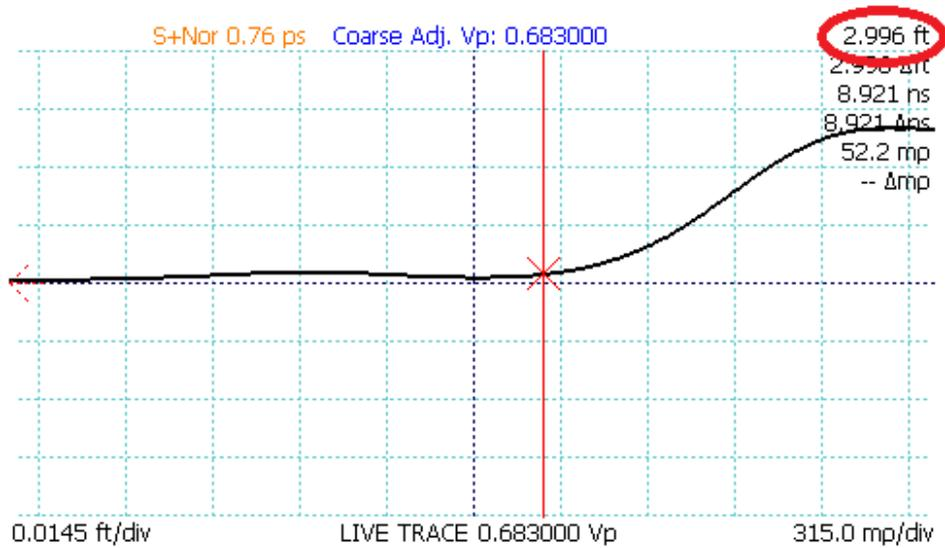

Figure 4.6. Use of the HORIZONTAL SCALE knob to improve Vp accuracy.
- Accurately position the cursors to bracket the area of the trace associated with the test cable. Using the scale and position knobs, move the ending cursor so that it is just aligned with the “toe” of the open or shorted fault at the end of the cable (Figure 4.6). If an adapter is used, position the starting cursor at the end of the adapter. The accuracy of cursor placement affects the accuracy of the Vp measurement.